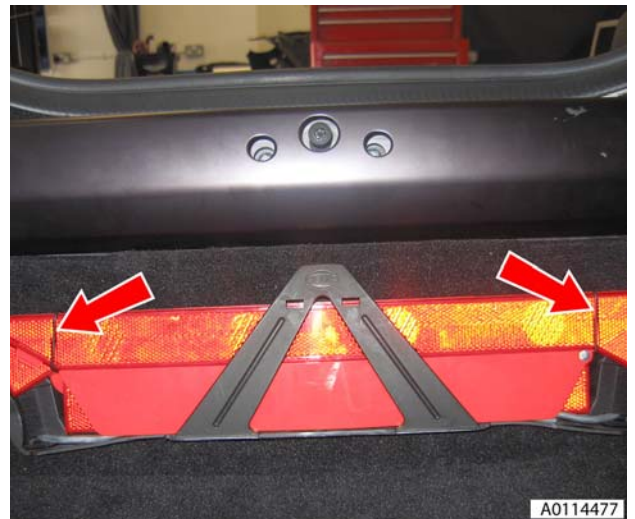

Figure 1
2. Release clips securing warning triangle in place and remove (see Figure 1).